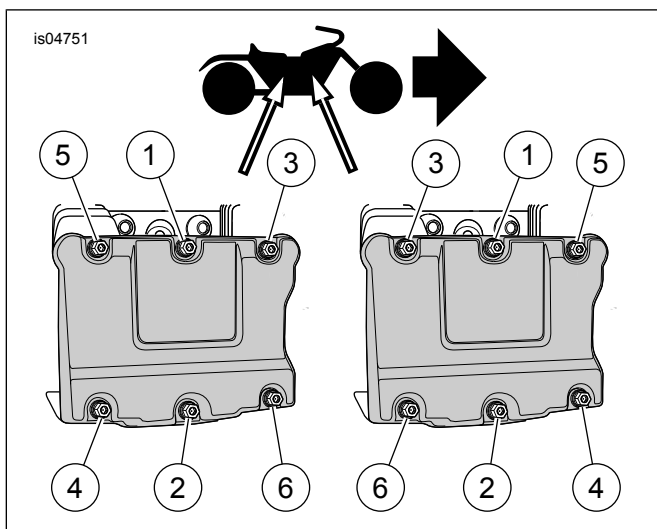
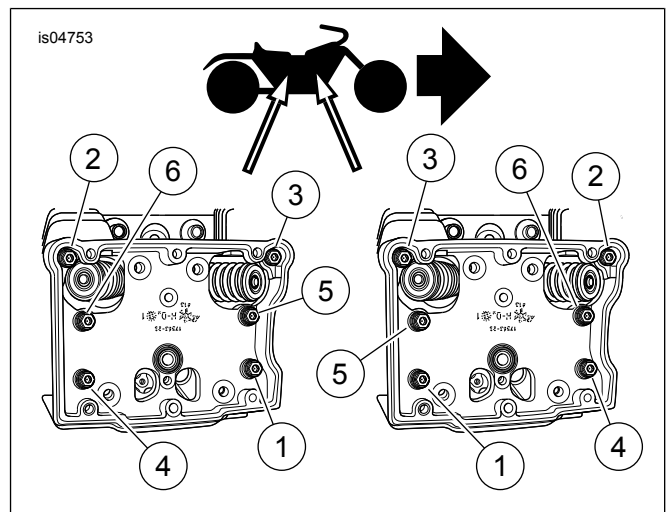
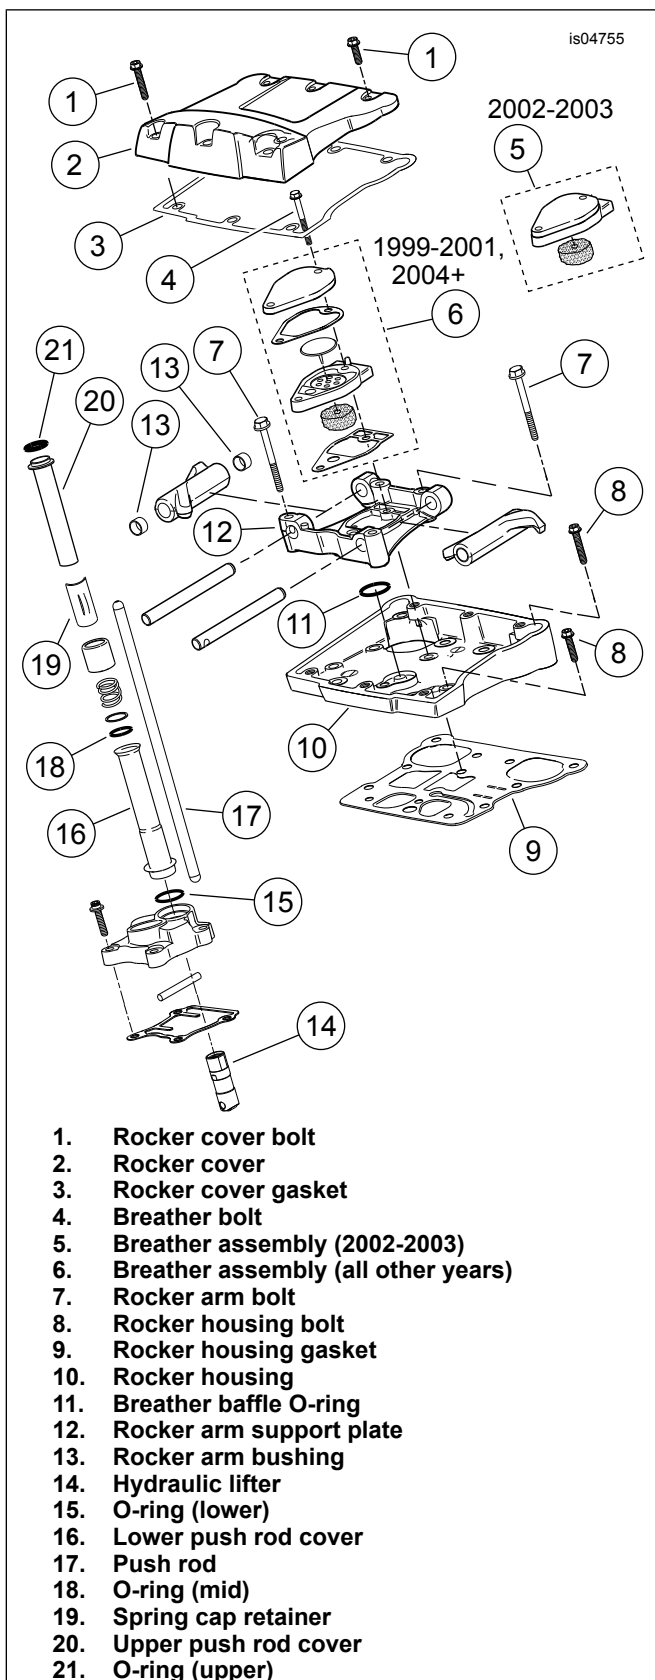

Figure 2. Loosen Six Rocker COVER Bolts in Sequence Shown
Figure 5. Loosen Six Rocker HOUSING Bolts in Sequence Show
Figure 6. Rocker Arm, Breather and Lifter Assembly
See Figure 6.
1. See the Figure 6 exploded view for all **key numbers** referenced in Steps 3 through 15. Reference Figure 2 through Figure 5 for removal details as indicated. Alternately loosen the six rocker cover bolts (1) following the sequence shown in Figure 2. Remove and discard the rocker cover bolts.
11. Remove and **discard** the O-ring (11) from the groove around the breather baffle hole in the rocker housing.
12. Alternately loosen the six rocker housing bolts following the sequence shown in Figure 5. Remove the rocker housing bolts, and save for re-installation.